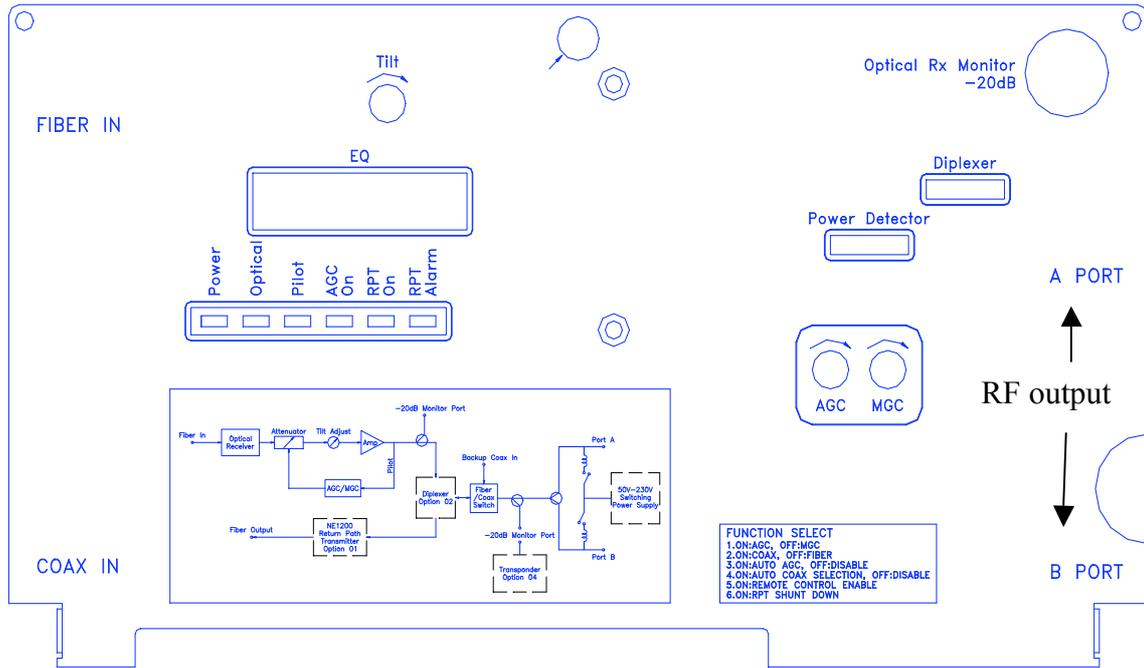

Figure 2. NE1100 Top Panel
4.1 Definitions - Refer to figures 2 & 3 to locate the following features of the receiver.